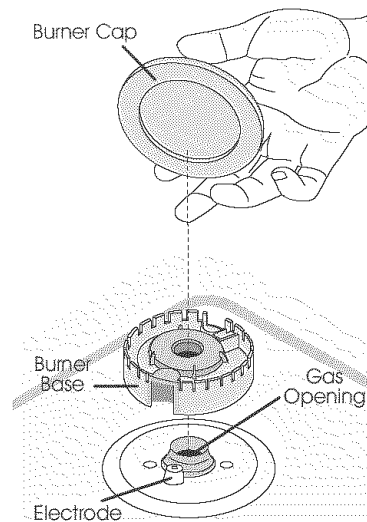

Figure 15
1. Install Burner Bases and Burner Caps This range is equipped with sealed burners as shown (see Figure 15).